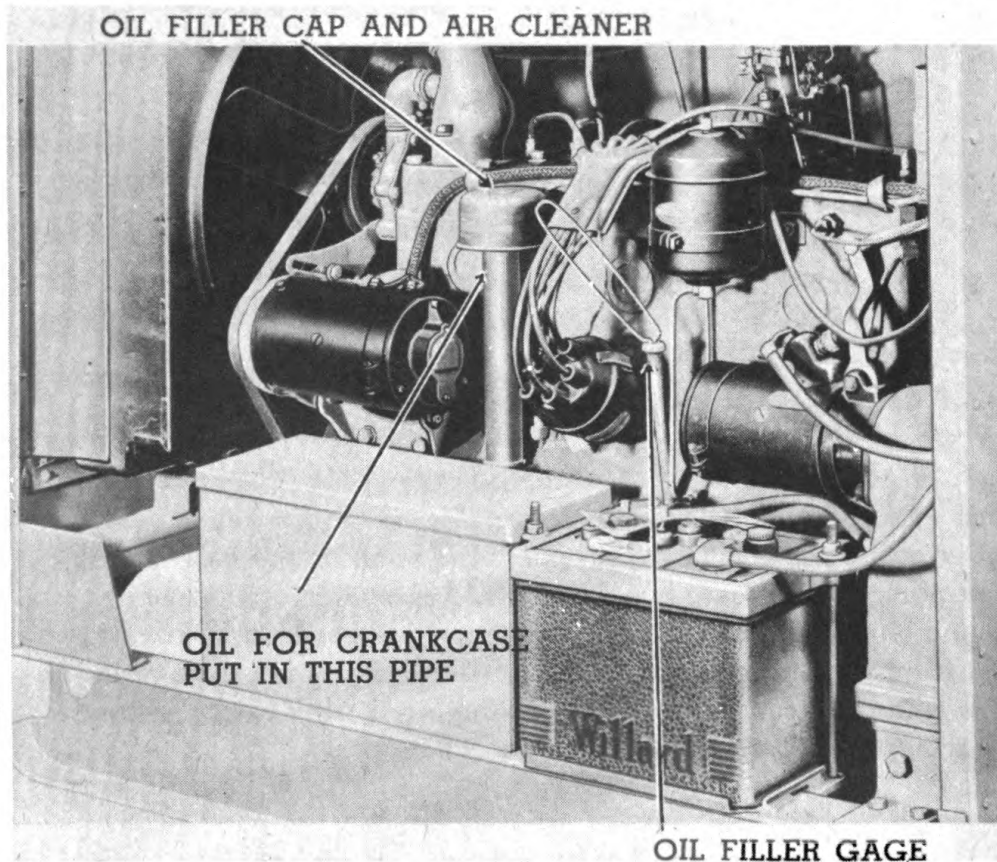

Figure 18—Close Up View Showing Oil Filler Pipe and Gage.
b. Fill the crankcase with engine oil to the level of the oil gage. (Figure 18.) Next fill the fuel tank with gasoline, free from dirt and